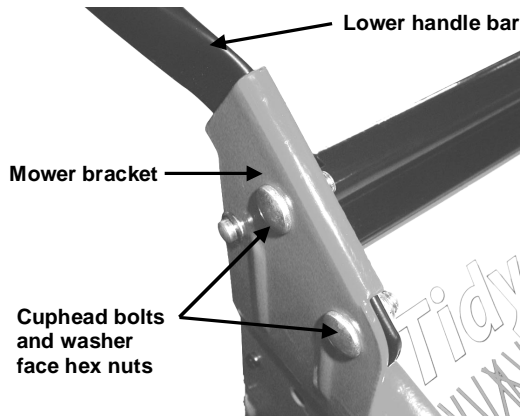

Figure 2. Handle bar assembly
- Align the lower handle bars against the inner face of the mower brackets, located at the rear of the mower base. Insert the four cuphead bolts from the outside through the mower brackets first and into the lower handle bars, and retain with the four washer face hex nuts on the inside of the lower handle bar and tighten. Refer to figure 2